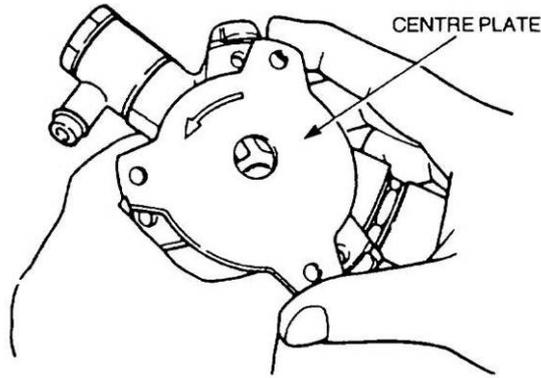

Figure 330 Installation of the Centre Plate
- i. Fit a new O ring on the pump housing and install the centre plate. Turn the plate to engage the three lugs in the housing (Figure 330). Position a new O ring on the alternator pump mounting face.